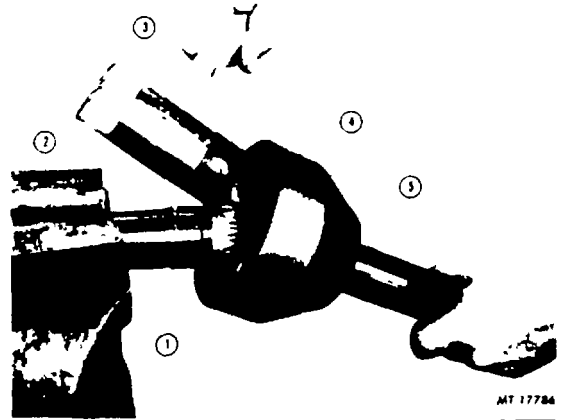

Fig. 10. Axle Shaft and Universal Joint Disassembly
1. Place axle shaft in a vise equipped with soft jaws. Grasp shaft end of universal joint and pull while rapping back side of joint with a soft faced hammer (see Fig. 10).